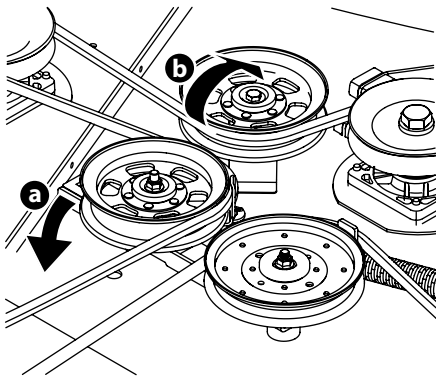

Figure 4-13
- b. Working from the middle of the tractor, pivot the idler bracket and movable idler pulley rearward away from the backside of the 'V' belt (a) just far enough to lift the belt up and over the idler pulley (b). See Figure 4-13.